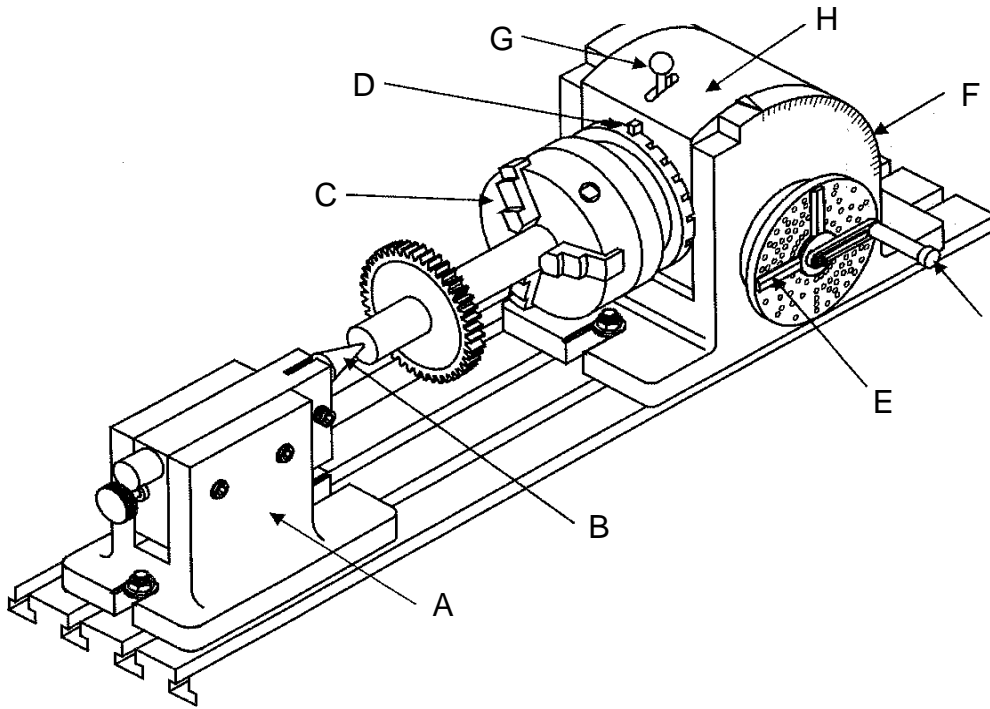

FIGURE 3
5.7 FIGURE 3 below shows a dividing head of a milling machine. Identify and label the components of the dividing head. Write the label number and the label name in your ANSWER BOOK.